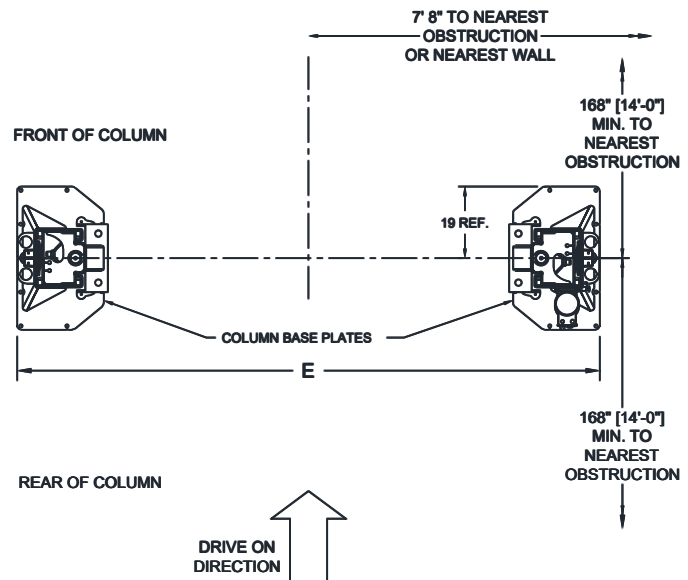

Fig. 1b- Service Bay Layout
- Layout the service bay according to the architect's plans or owners instructions (**see Fig. 1b**). **Failure to install in this orientation can result in personal and property damage.** Be certain that the proper conditions exist, see page 3.